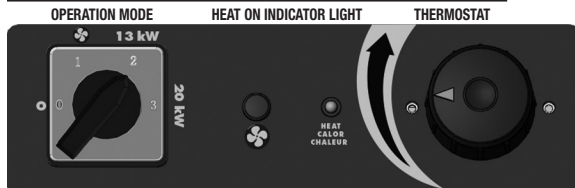

FIG. 1
*NOTE: This heater is equipped with an overheat limit switch which may cause the heater to stop. This is indicated by a visual alarm when the power switch is in the on position and all lights are off. (fig 1) Check and remove the cause of the overheating before restarting. This can take up to 15 minutes to cool before it can be restarted.*